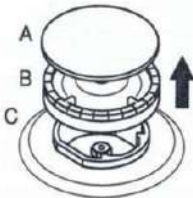

Figure 19
- Remove the burner cover and burner as shown in the Figure 19. Remove the injector by help of 7's socket screw driver as shown in the Figure 19.1.